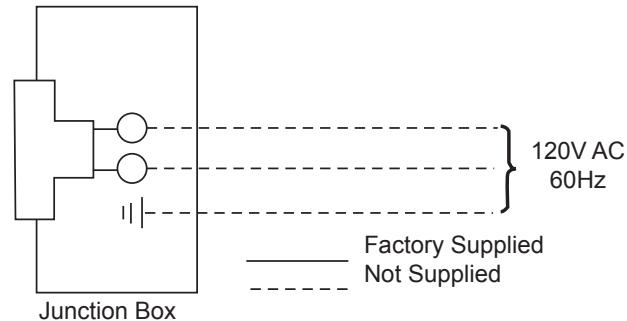

Figure 50 -
3. The junction box cover has a factory installed "romex" style strain relief connector. After connecting the wires, route the wire leads through this connector. Refer to the wiring diagram in *Figure 50*.